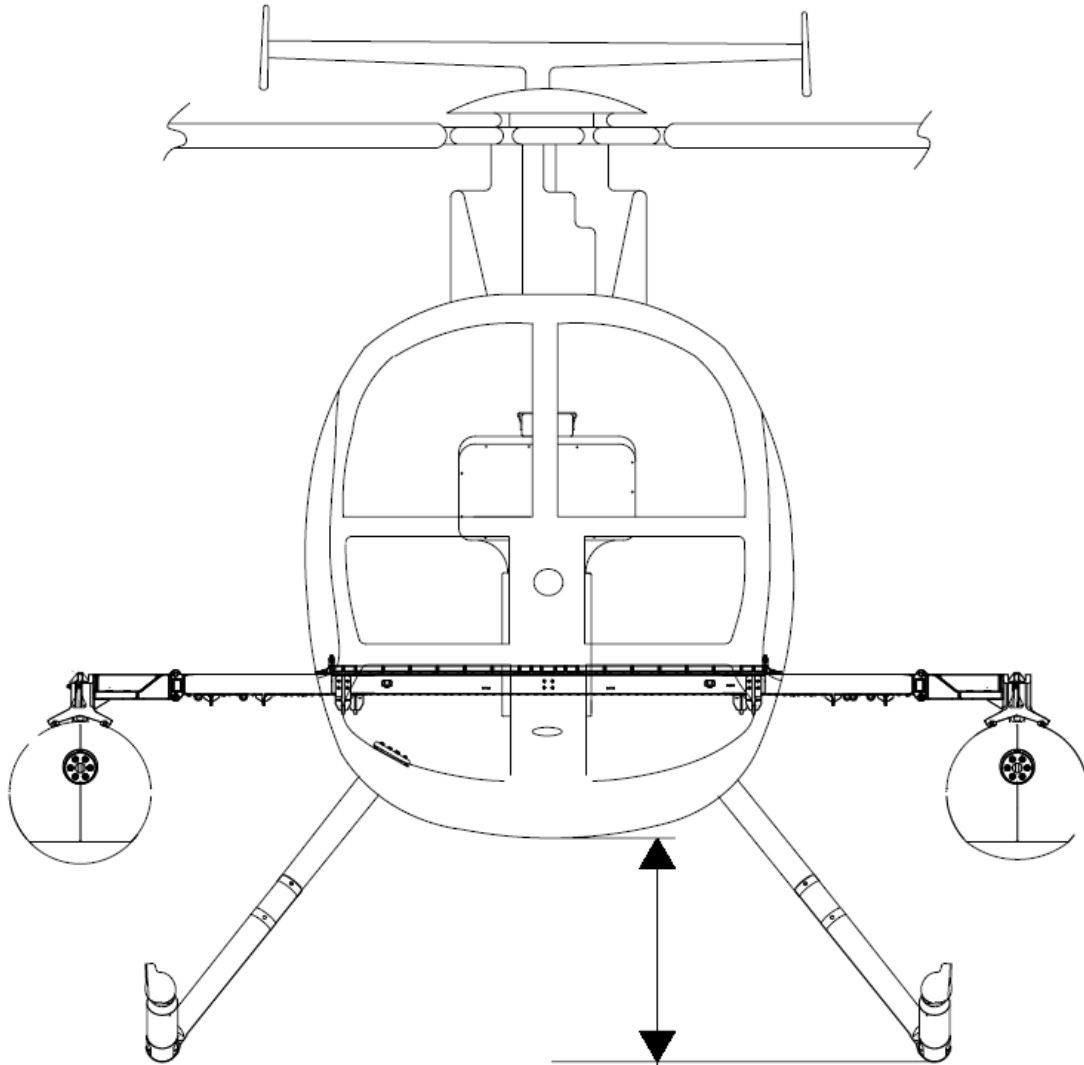

Figure 29. MD 530F Cayuse Warrior Weapons Configuration #2.
- Daylight Color & Low Light Cameras:** The color and low light cameras both rely on a high performance 18x zoom lens, ruggedized by L-3 WESCAM, whose anomalous dispersion glasses and special wide band anti-reflection coatings enable operation throughout the visible and near infrared wavelengths (Figure 29). The color camera's 5-megapixel class image sensor is capable of both 720p and 1080p operation. In 720p operation, a special 'Wide' mode is available that increases field of view by combining four adjacent color pixels into one output pixel. Through use of both the Wide and Normal modes of operation, the MX-10/10D are able to achieve a 36x effective optical zoom range in the color camera.